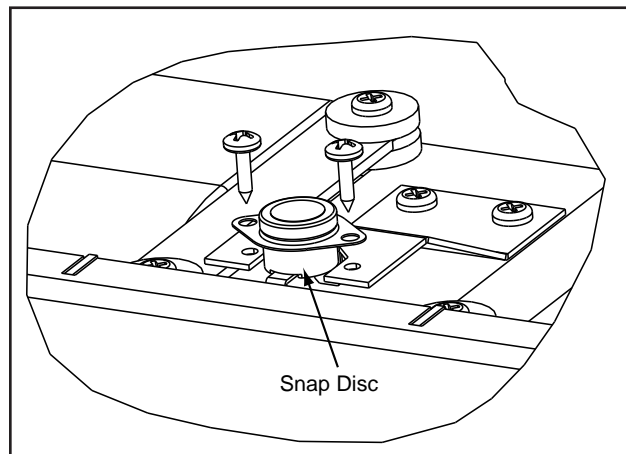

Figure 21.2
3. Using a Phillips head screw driver, remove the 2 screws from the snap disc and lift the snap disc off of the mounting bracket. Disconnect the wires and replace with new snap disc and re-connect the wires. **Figure 21.2.**